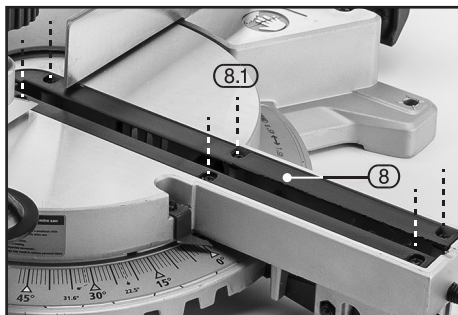

FIG.39
10.1 TABLE INSERT REPLACEMENT – FIG.39